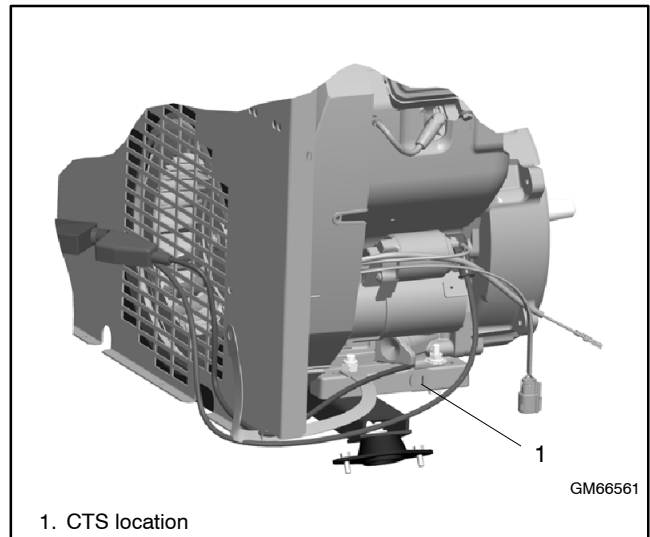

Figure 5-22 Temperature Sensor CTS Location
Disconnect the harness (connector P5) at the engine temperature sensor (CTS). See Figure 5-22 for the CTS location. Connect a jumper wire across the temperature sensor (CTS) connections in connector P5. See Figure 5-23. Press RUN to start the generator set. After 5 seconds, verify that the controller display shows HE, indicating a high engine temperature fault. If a Model RRT transfer switch is connected, the generator set will run for 5 minutes in engine cooldown mode. The display will alternate HE and COOL.
The temperature sensor (CTS) is used to monitor engine temperature for the high engine temperature fault shutdown (HE). See Figure 5-22 for the coolant temperature sensor location. Press the OFF button on the controller to stop the generator set and allow the generator set to cool. Disconnect the CTS and use an ohmmeter to measure the resistance across the sensor. The sensor resistance varies with temperature and should be within the values shown in Figure 5-24. If the resistance is very low (indicating a short circuit) or very high (indicating an open circuit), replace the CTS.